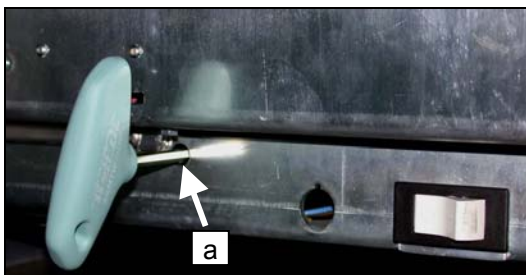
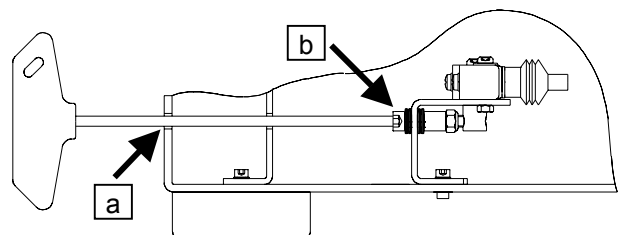

Fig. 1
Fig. 2
- Insert the hexagon socket head wrench (rotor tool) horizontally in the drilling (Fig. 1, Fig. 2, a) in the lower part of the housing and stick it into the adjusting screw (Fig. 2, b) of the imbalance switch, located at the angle bracket.